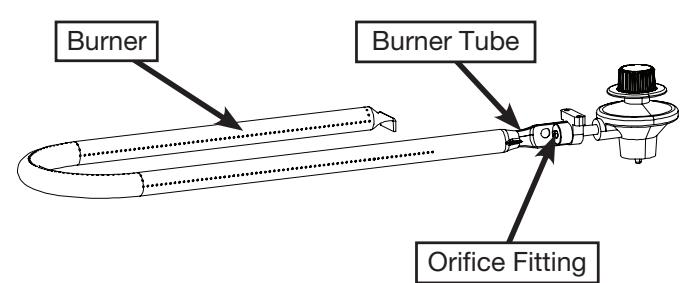

Fig. 22
- Proper location of the burner with respect to the orifice is important. To verify the proper installation of the burner tube, view under the regulator assembly cover. The burner tube must be located over the orifice fitting. See Fig. 22 (grill top not shown).